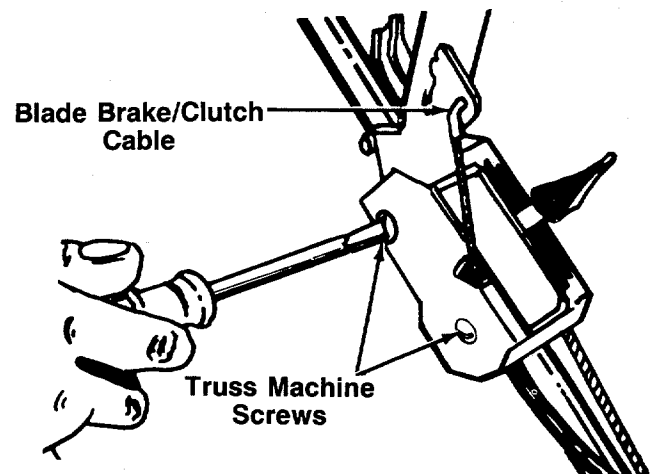

FIGURE 15.
5. Remove two truss machine screws on the inside of the control housing as shown in figure 15.